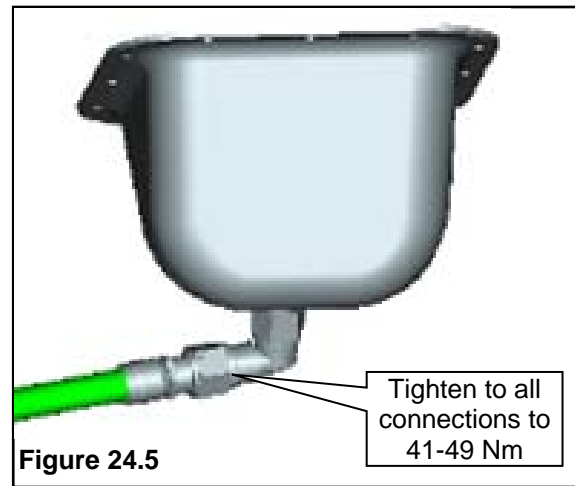
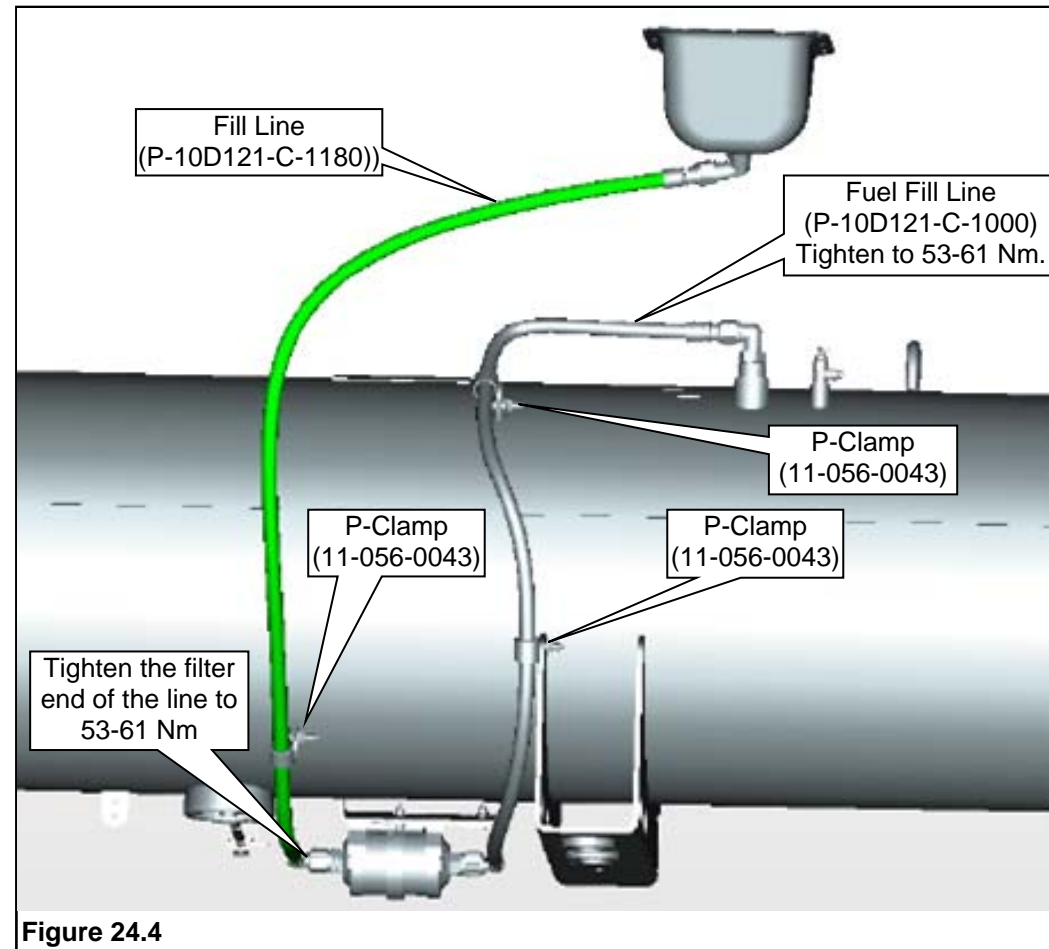

Figure 24.5
Figure 24.4
12. Install the fuel fill line (P-10D121-C-1180) to the elbow attached to the fuel fill valve. Prior to tightening all connections, ensure the elbow is oriented such that the fill hose is not stressed, kinked or twisted. **Figure 24.4 and 24.5.** Route and secure the line to the fuel filter and tighten to specification. **Figure 24.5.**
13. Position the fill line between the fuel filter and the overfill protection device (OPD) 90 degree fitting. Thread the line fittings into the filter and the OPD and tighten the fittings to specification. Retain the line to the tank using p-clamps. **Figure 24.4.**